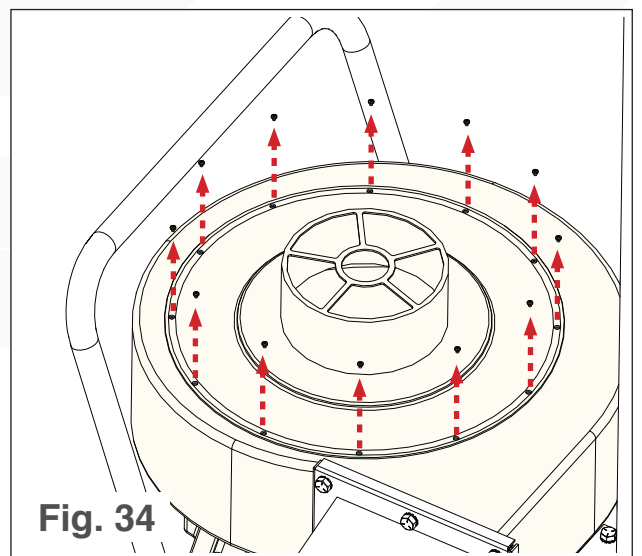

Fig. 34
- b. Remove the 12 screws on the top of the motor assembly (see Fig. 34).